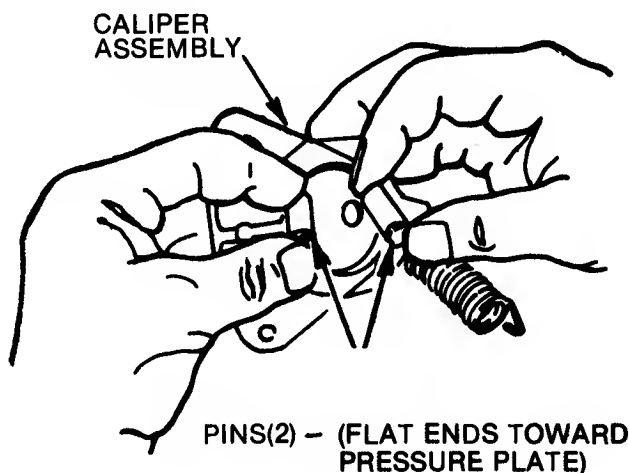

FIG. 3.4--INSPECT CALIPER PINS
6. Remove the 1/2 inch brake pad from the brake caliper assembly and inspect the caliper assembly to make sure that the pins move freely and that actuator linkage has adequate freedom of movement for positive braking operation (Figure 3.4). Make sure flat end of pins are installed toward the pressure plate. **NOTE:** If pins do not move freely, remove and clean before proceeding further. Lubricate the pins with dry graphite.